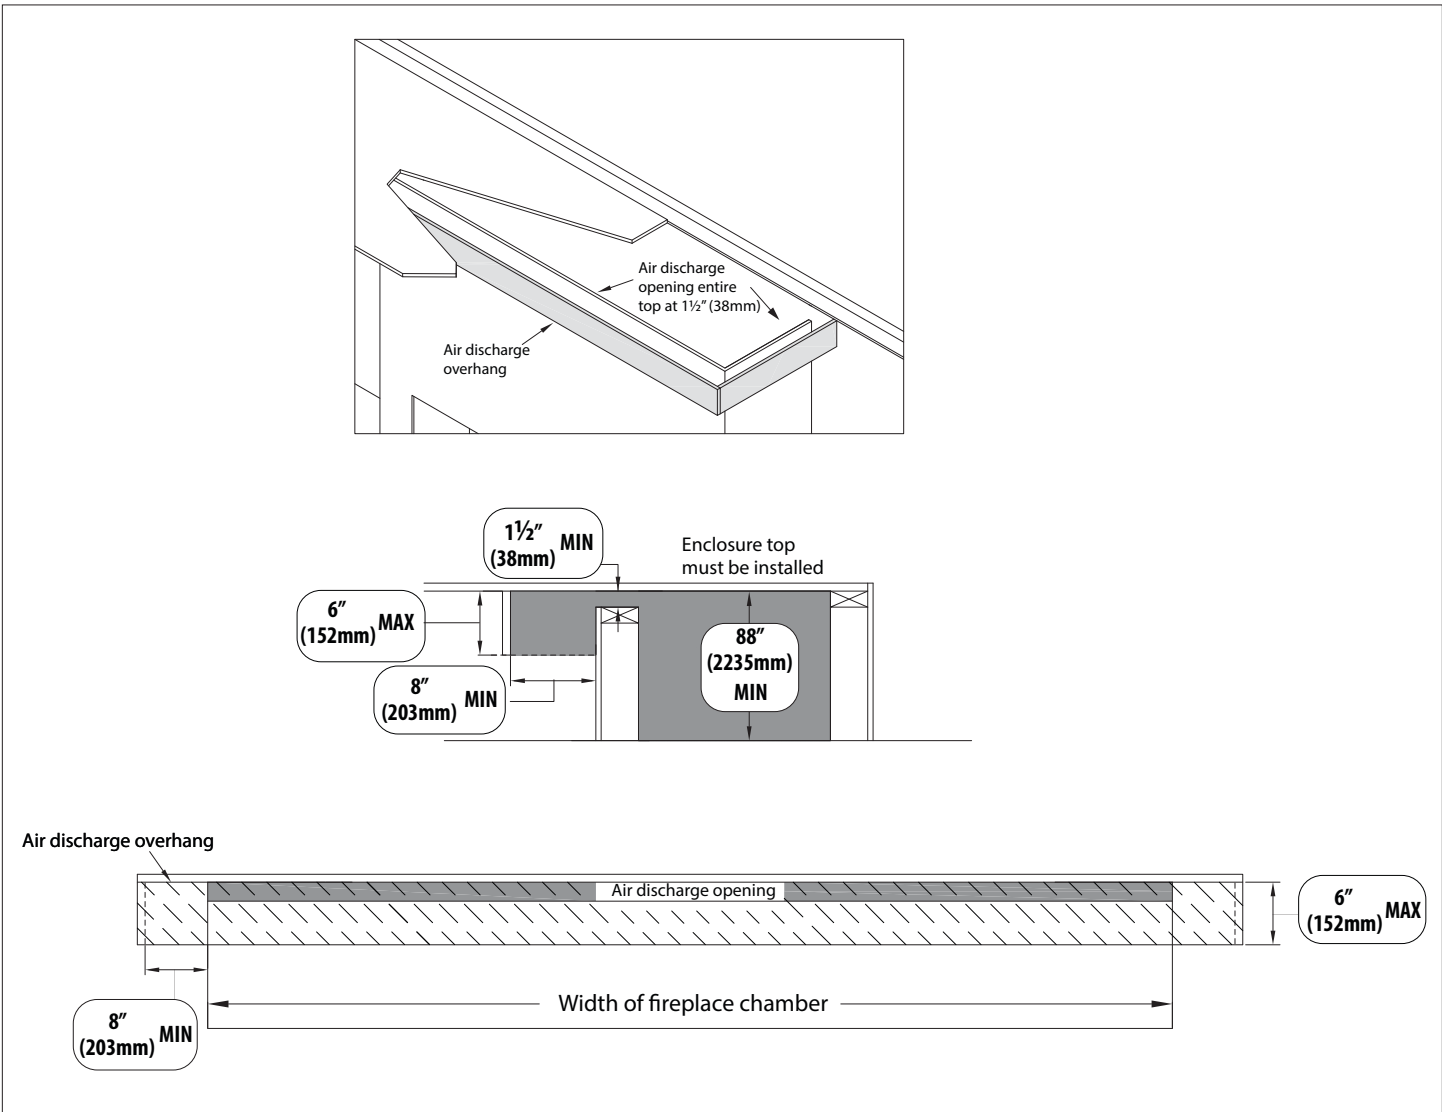

Figure 3.23, Top Vented Cavity Alternative Installation with Overhang
- Figure 3.23 on the following page shows an alternative installation for the top vented cavity option with an air discharge overhang in front of the air discharge opening. This installation method can provide a means to visually hide the air discharge opening.